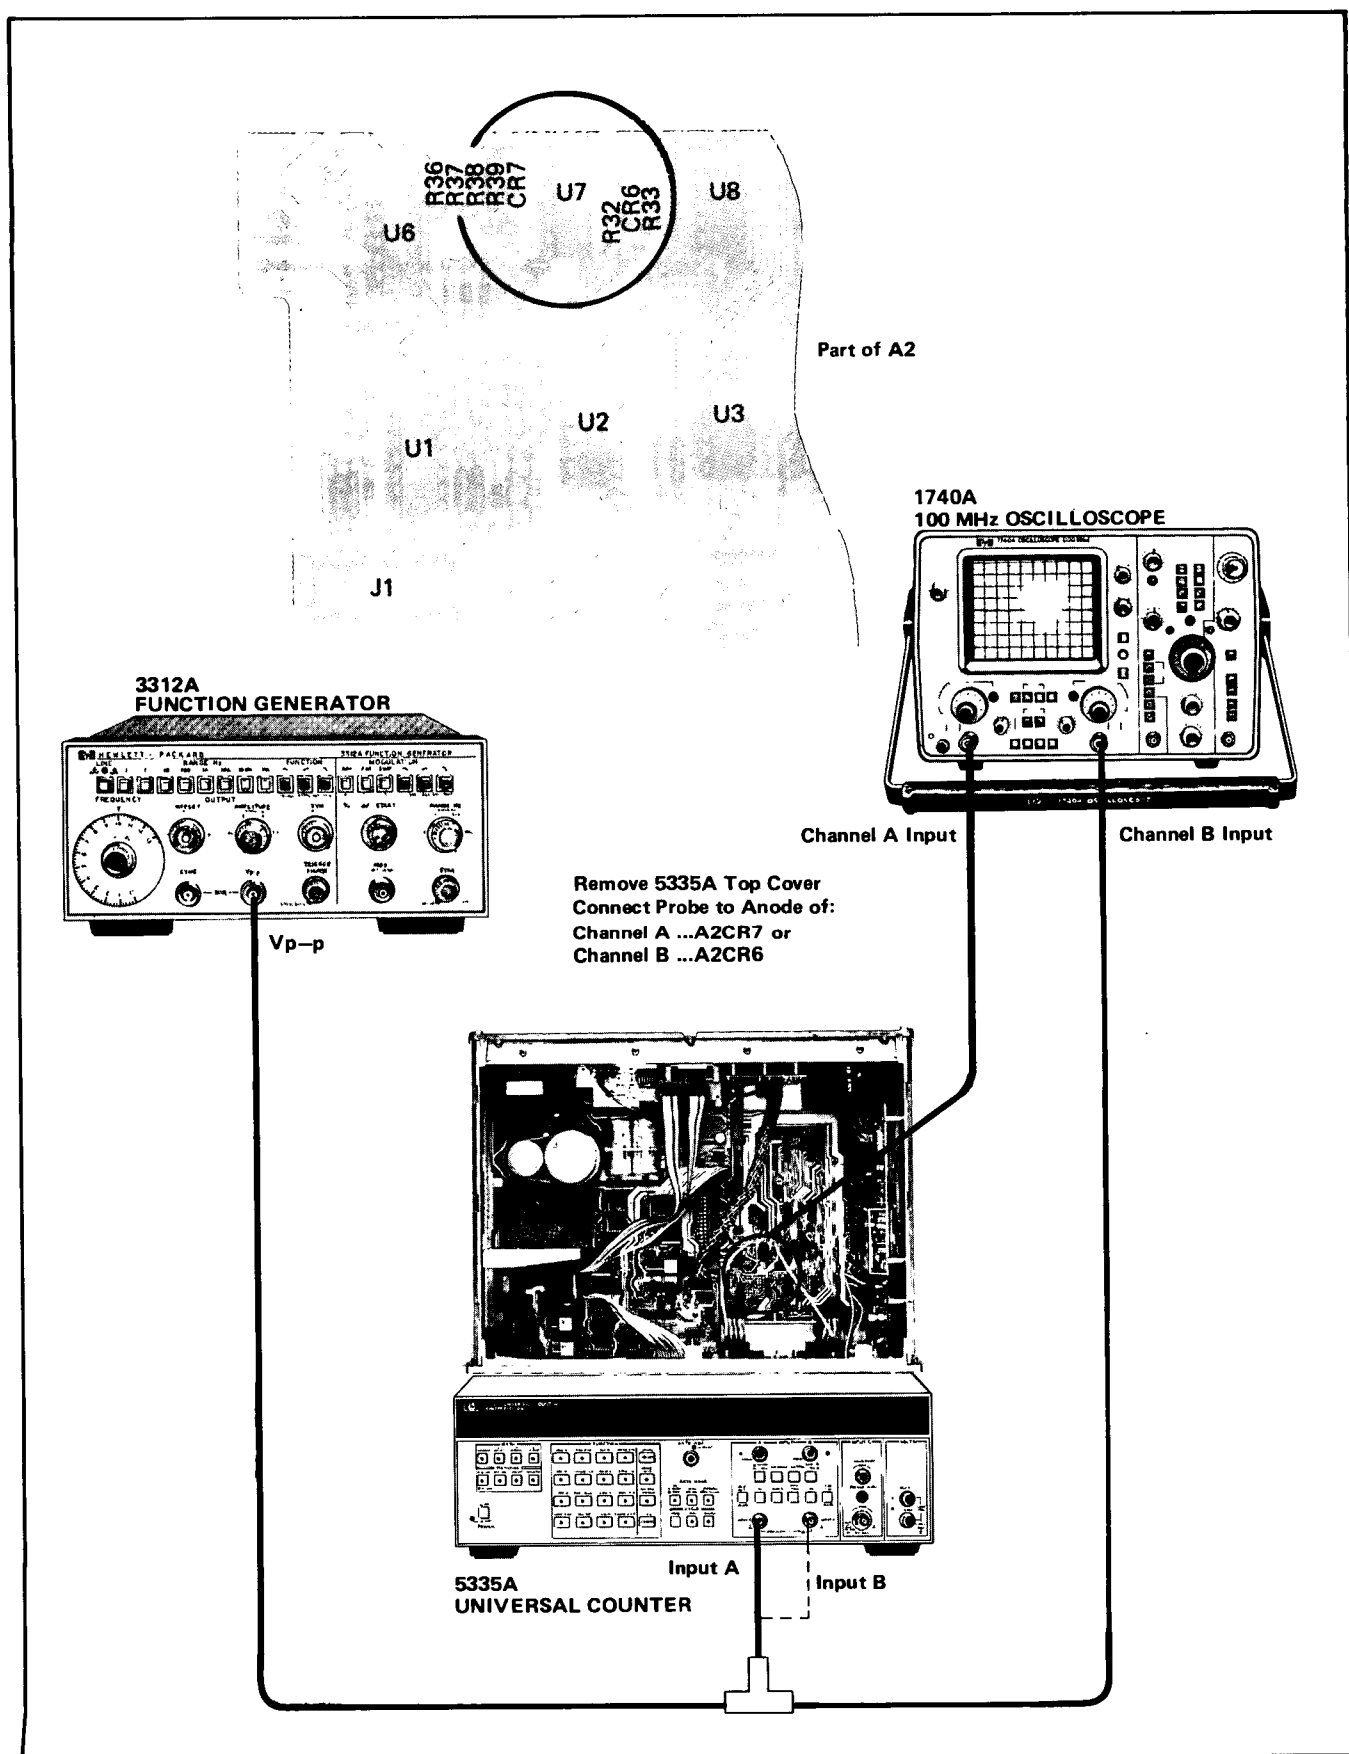

Figure 5-1. Input Amplifier Adjustment Setup.
- Remove the 5335A top cover, and locate variable resistors R37, R47, R88, and R96 on the A3 Input Amplifier Assembly (05335-60003). Refer to Assembly Adjustment Locator in Figure 5-1, and component locators in Section VIII.
- d. Connect the test equipment as shown in *Figure 5-1*; for the Channel A adjustment, connect the oscilloscope A channel probe to the anode of A2CR7.